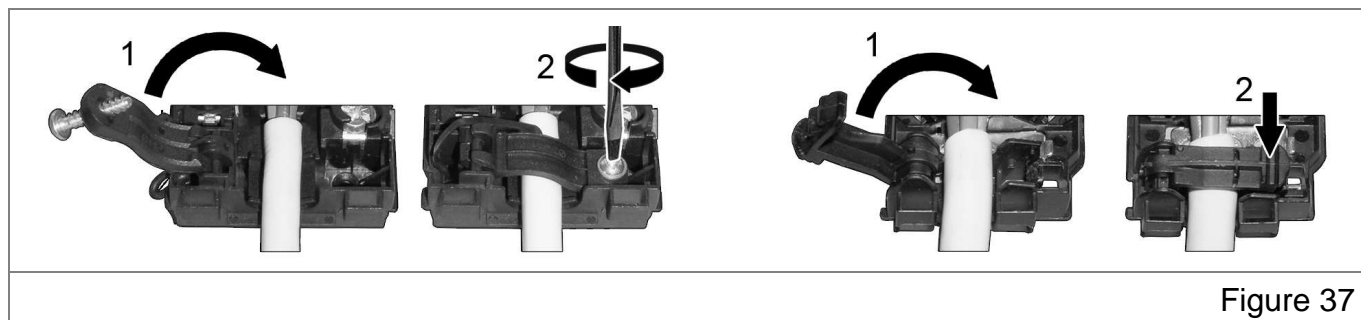

Figure 37
- Tighten or press firmly the cable support and close the junction box cover (Figure 37).